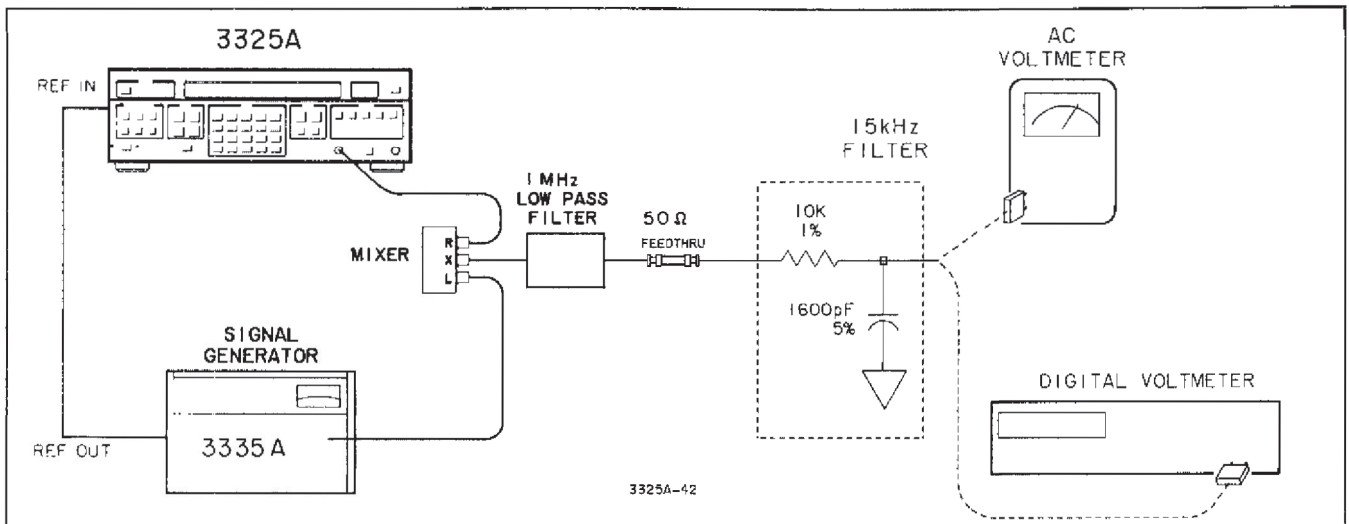

Figure 4-3. Integrated Phase Noise Test
- Capacitor: 1600 pF  $\pm$  5% (-hp- Part No. 0160-2223) See Figure 4-3
a. Connect the equipment as shown in Figure 4-3, connecting the 15kHz noise equivalent filter output to the ac voltmeter. Phase lock the 3325A and the signal generator together.